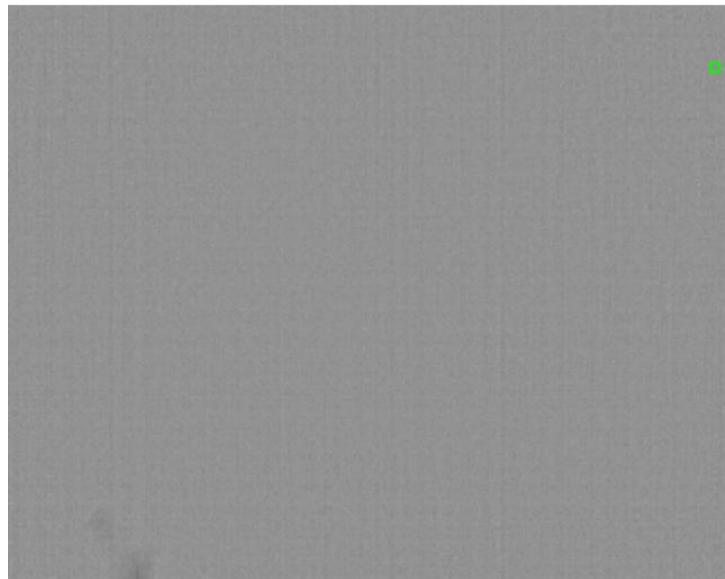

Figure 30: “FFC Desired” Symbol (Factory-Default)
- FFC Desired: By factory default, the symbol shown in Figure 30 is displayed whenever the “FFC Desired” flag is set. (See Section 6.12.3 and Section 7.6.)
- **FFC Desired**: When operating in manual or external FFC mode, the *FFC Desired* flag is used to signal the user to command FFC at the next possible opportunity. In automatic FFC mode, the flag is never set because an automatic FFC takes place instead. See Section 7.6 for detailed description of the conditions which cause the flag to be set. By factory default, a small unfilled square (green border) will appear in the upper right of the post-colorization video signal whenever the *FFC Desired* flag is set. (See Figure 30 in Section 6.8.)